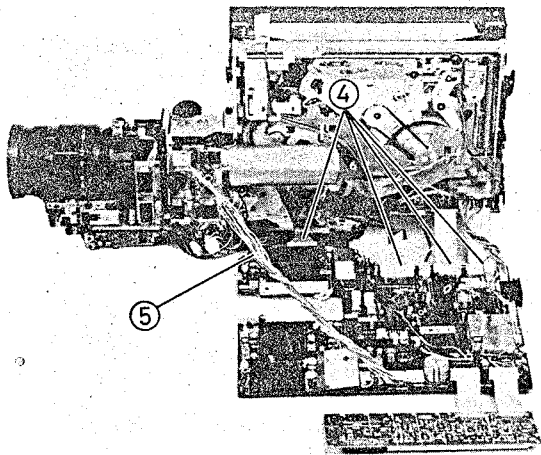
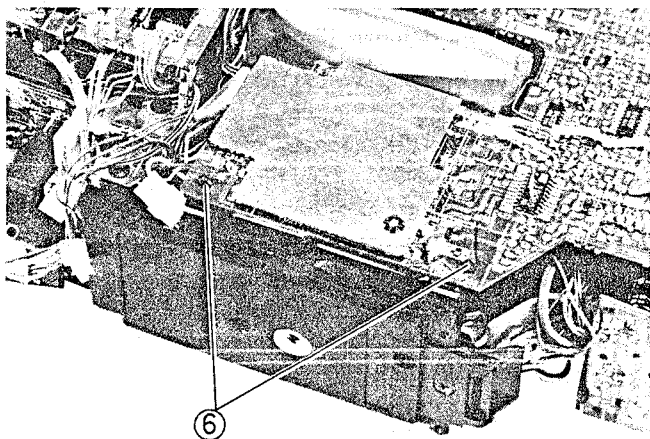

Fig. 2-15 Main Circuit Board Removal
Fig. 2-16 Main Circuit Board Removal
4. Disconnect four (4) flat cables (CN408, CN107, CN613, CN214). (See Fig. 2-15)
5. Unsolder one (1) lead.
6. Release two (2) tabs of the board holder. (See Fig. 2-16)